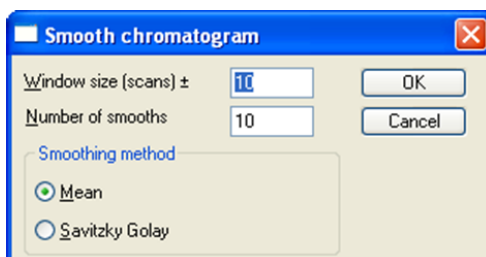

Figure 45 - Smoothing the chromatogram
9. Open the resulting chromatograms on a single page and smooth both with the settings shown in Figure 45.